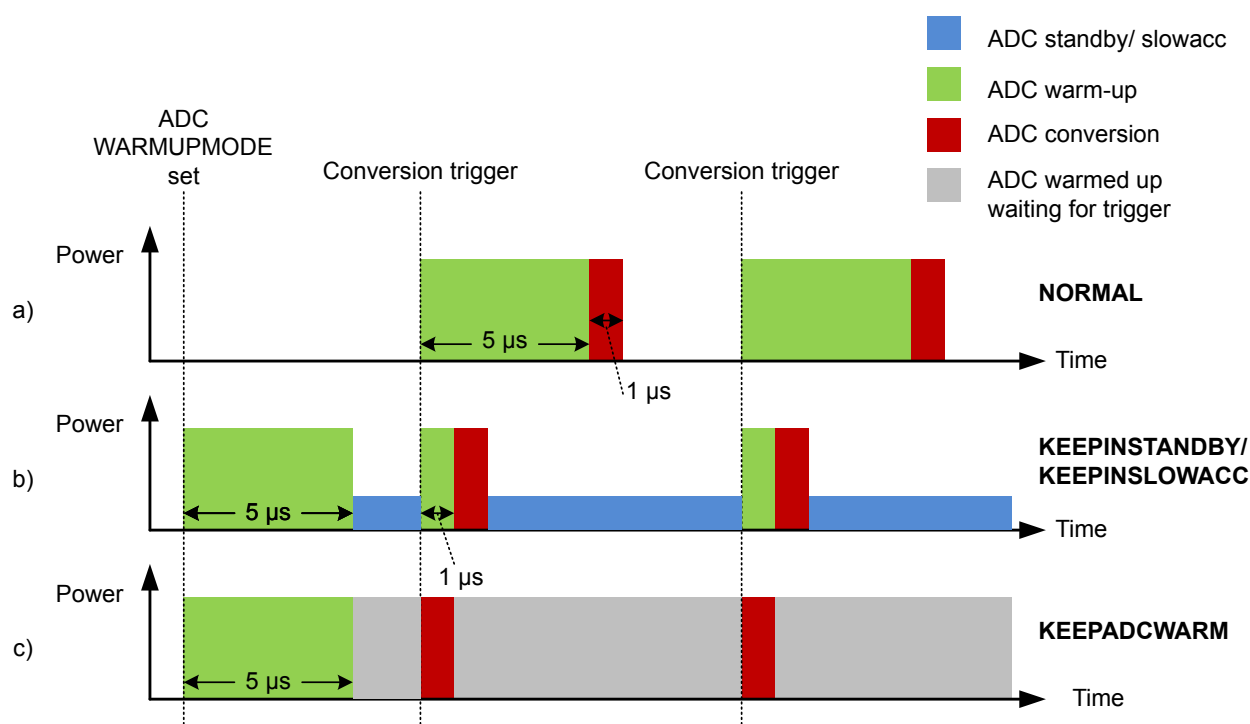

Figure 27.4. ADC Analog Power Consumption With Different WARMUPMODE Settings
Normally, the ADC will be warmed up only when samples are requested and is shut off when there are no more samples waiting. However, if lower latency is needed, configuring the WARMUPMODE field in ADCn_CTRL allows the ADC and/or reference to stay warm between samples, reducing the warm-up time or eliminating it altogether. Figure 27.4 ADC Analog Power Consumption With Different WARMUPMODE Settings on page 913 shows the effects on analog power consumption in scenarios using different WARMUPMODE settings.
- **NORMAL:** This is the lowest power option for general-purpose use and low sampling rates (below 35 ksps). The ADC and references are shut off when there are no samples waiting. The ADC does not consume any power when it is shut down. A 5 μ s warmup time will be initiated prior to every conversion. Figure a in Figure 27.4 ADC Analog Power Consumption With Different WARMUPMODE Settings on page 913 shows this mode.
- **KEEPINSTANDBY:** This mode is suitable for infrequent sampling of lower impedance inputs, and is the lowest power option for sampling rates between about 35 and 125 ksps. It may also be useful for lower sampling rates where latency is important. The reference selected for scan mode is kept warm, but the ADC is powered down. The ADC will initiate a 1 μ s warmup period before a conversion begins. Because the reference is kept warm, the ADC will consume a small amount of standby current when it is not converting. Figure b in Figure 27.4 ADC Analog Power Consumption With Different WARMUPMODE Settings on page 913 shows this mode.
- **KEEPADCWARM:** This mode provides the lowest latency and allows for maximum sampling rates. The ADC and reference circuitry remain powered on even when conversions are not in progress. Figure c in Figure 27.4 ADC Analog Power Consumption With Different WARMUPMODE Settings on page 913 shows this mode. This mode consumes the most power, but as soon as a trigger event occurs, the acquisition and conversion begin with no warm-up time. Note that if KEEPADCWARM mode is set and HFXO is selected as the ADC clock source, the HFXO will remain on in EM2.